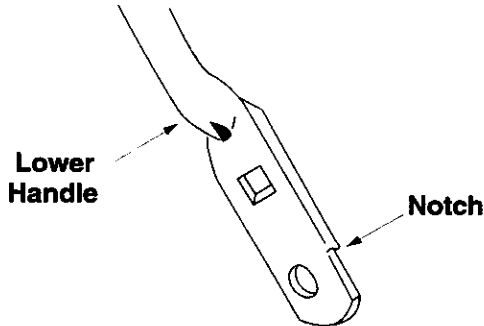

Figure 16
4. Turn the lower handle around so the notches on the bottom of the lower handle are facing forward as shown in Figure 16. Reassemble, placing the bottom holes in the handle over the weld pins in the handle mounting bracket.